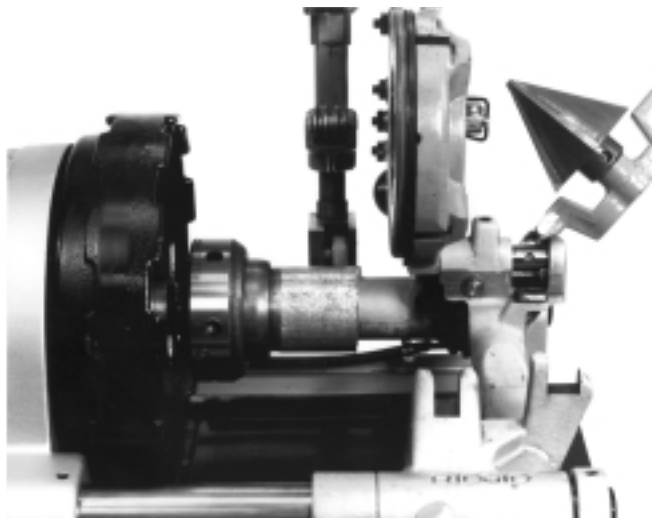

Figure 20 – No. 819 Nipple Chuck Ready to Thread
5. Screw nipple (Figure 20) threaded on one end into adapter by hand. Ream and thread other end.